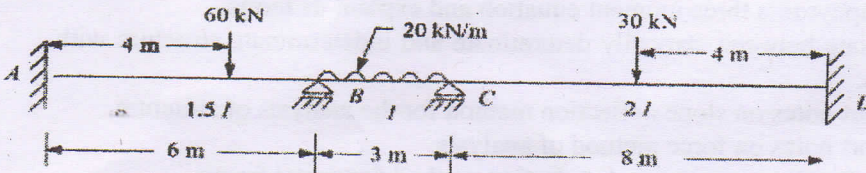

Fig.4
- VI. Analyse the continuous beam shown in fig.4 by moment distribution method and draw its bending moment diagram.